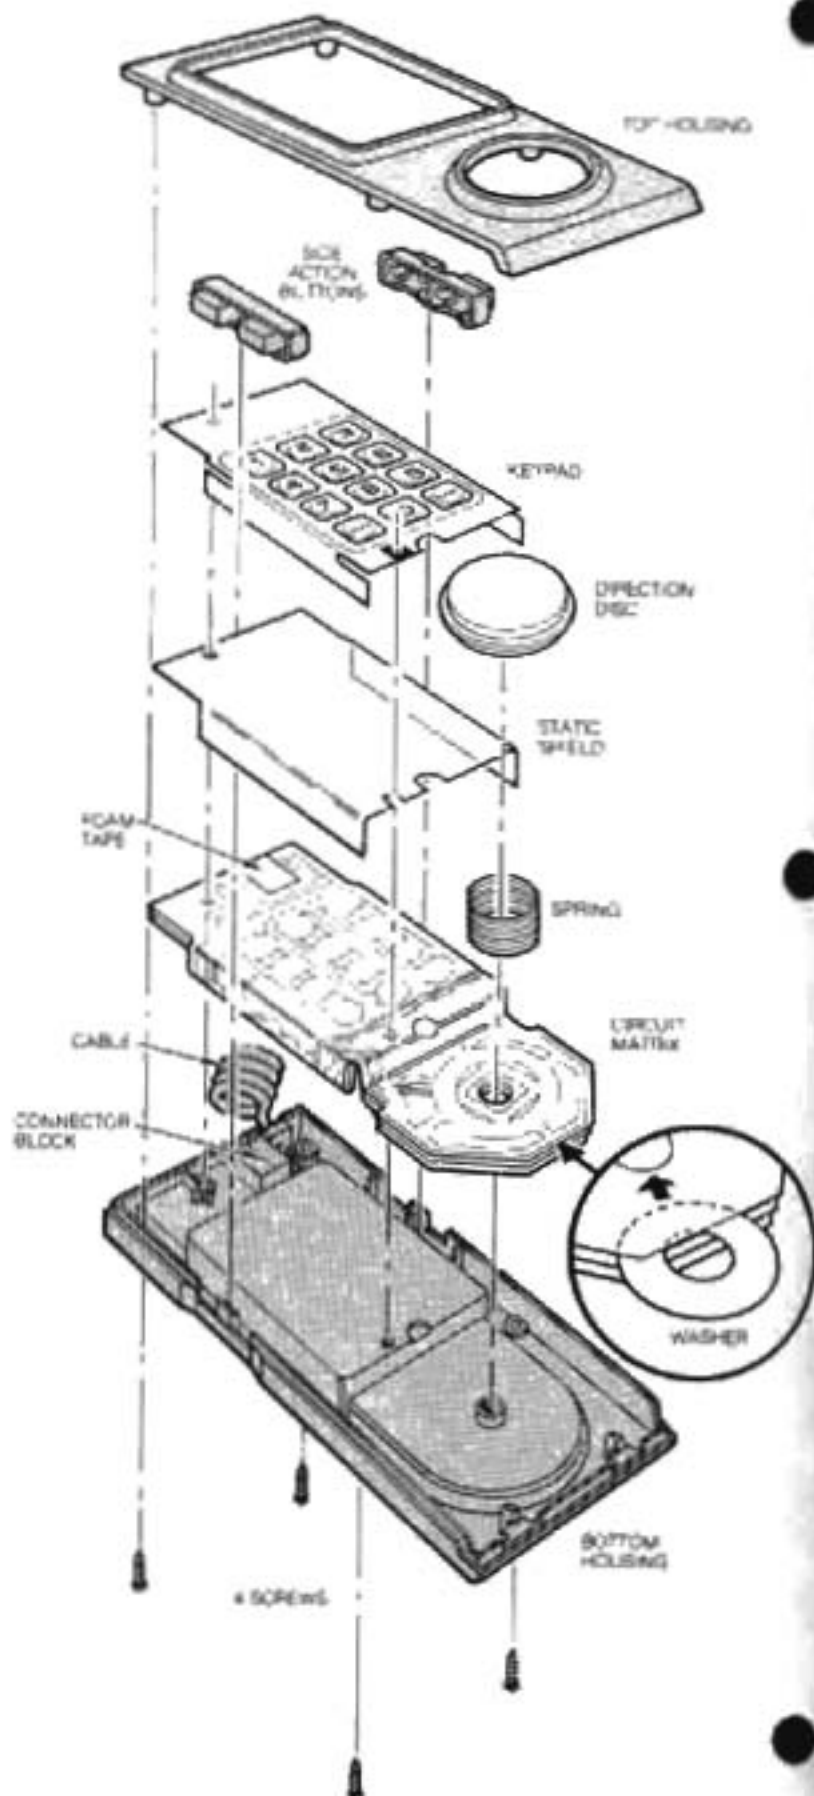
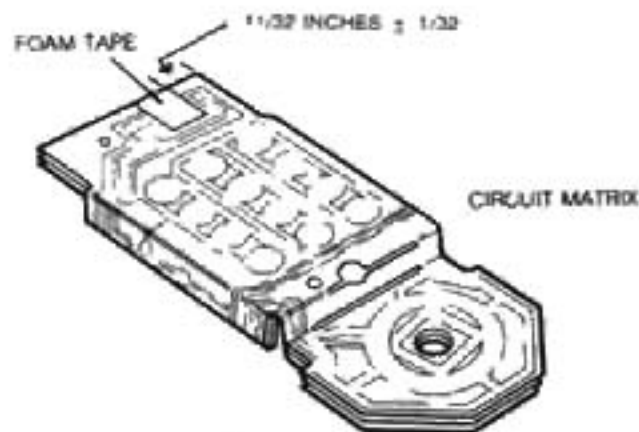

Figure 4-2
Figure 4-7 Foam Tape Replacement
5) Remove the static shield and the circuit matrix from the lower housing. (See Figure 4-2.)
Apply foam tape (2609-6159) to circuit matrix as required. Refer to Figure 4-7. Install the circuit matrix as shown in Figure 4-2 and make sure it fits snugly over the top and bottom posts.
Foam tape is to be applied directly to the folded circuit matrix. Tape is to be captured between matrix and domed legend, and pressed to secure its position. Refer to Figure 4-7.
3) Install the static shield over the folded circuit matrix, making sure the posts go through both sets of holes (shield and matrix). Refer to Figure 4-2. Hold the matrix and shield in place with fingers.
5) Check that the components are correctly installed. Place the washer under the top layer of the circuit matrix and over the directional disc post as shown in Figure 4-2.
7) Mount the spring and Directional Disc. Refer to Figure 4-2.